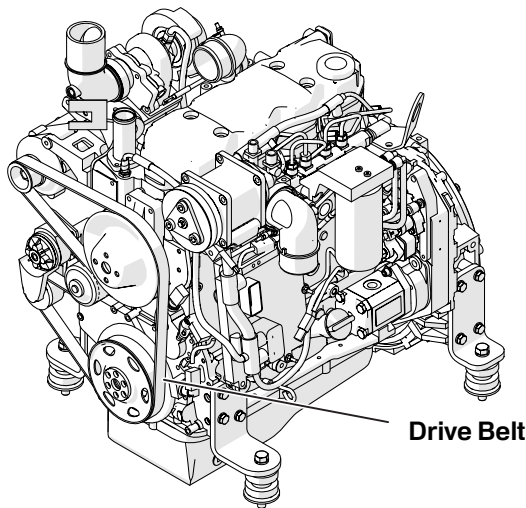

Figure 5-2. Cummins Engine
2. Inspect the belt for cracks, fraying, punctures, or other damage. Damaged belts must be replaced. (Figure 5-2)